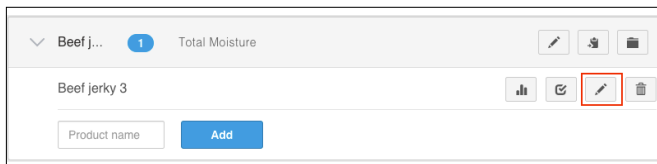

Figure 74 Select product
3. Select the product group that contains the product to be added as a model (Figure 74).
5. Click the edit icon on the product row (Figure 74).